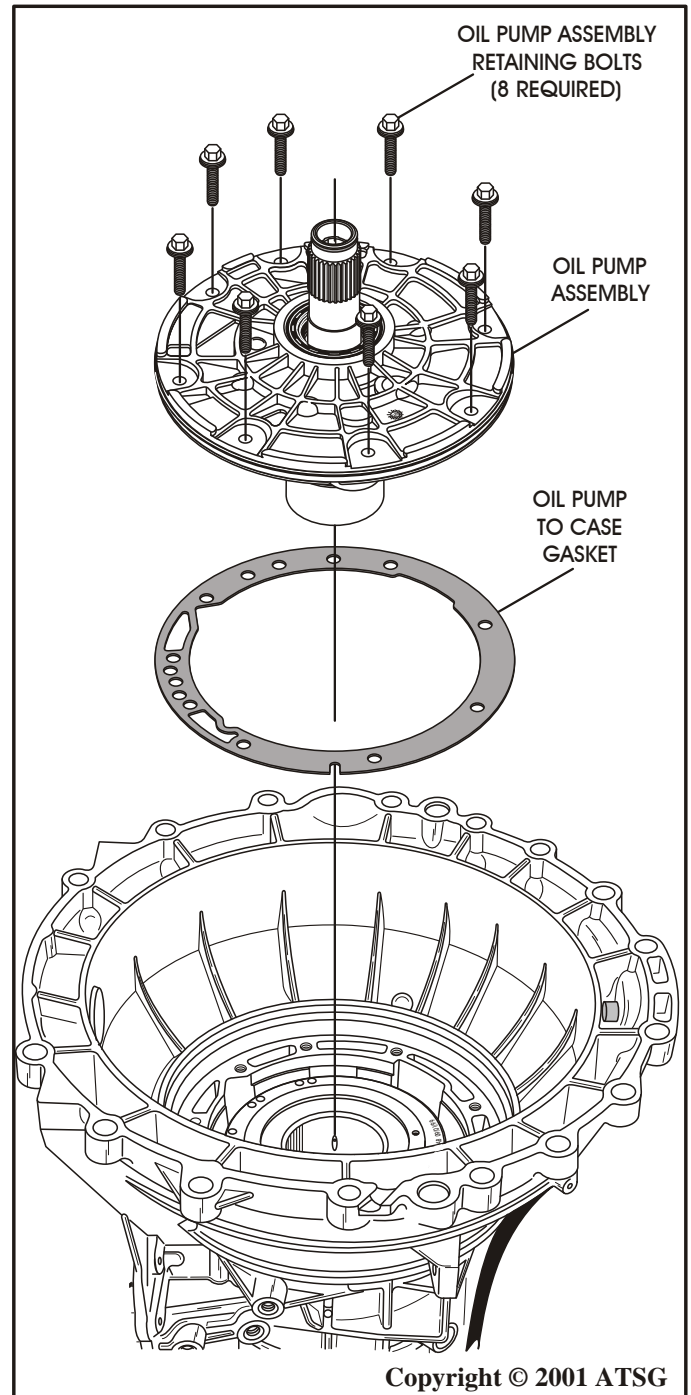

Figure 38
35. Remove the eight oil pump retaining bolts, as shown in Figure 38.
36. Using the special pump removal tool and your slide hammer, remove the oil pump assembly, as shown in Figure 38.